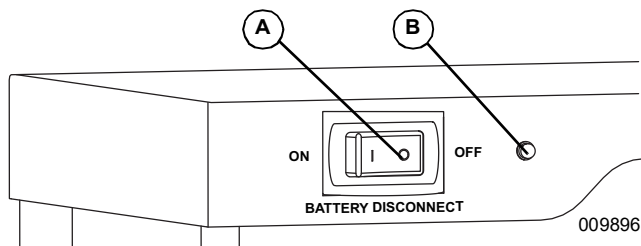

Figure 2-8. Blackstart
See Figure 2-8. If LED (B) goes to solid orange after 3 seconds when the Battery Disconnect Switch is turned ON, the battery is disabled. If the LED goes to green, it is already enabled and does not require a Blackstart. See Battery Status LED for more information.